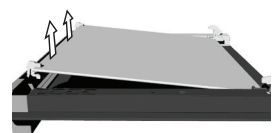

Figure 3
- To remove the third inside glass, lift and remove it. Also remove the rubbers on the glass (Figure 3).